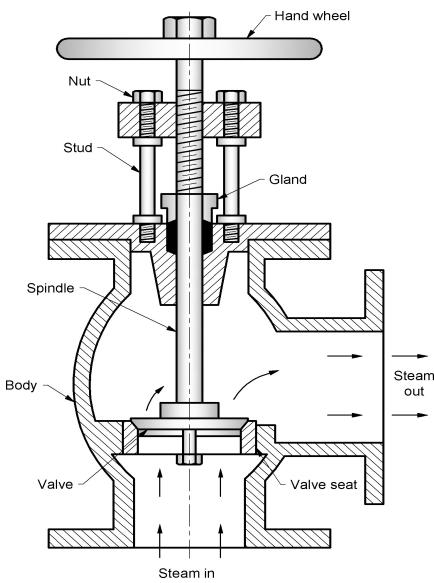

Fig. 2.3 Steam stop valve
- (1) When the steam stop valve is placed on the top of shell then it is called junction valve and when it is placed near to prime mover then it is called steam stop valve. Fig. 2.3 shows schematic diagram of a steam stop valve.
- (2) The main body is made of cast iron. The valve, valve seat and nut through which valve spindle